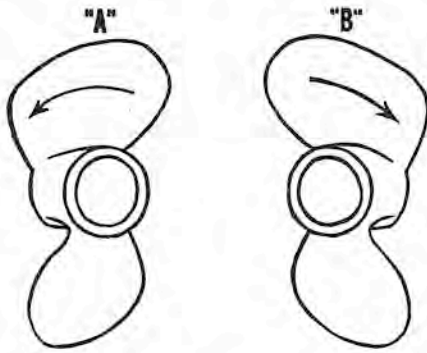

Fig. M102—Before disassembling the direct drive lower unit, check to see if it is Standard Rotation (A) or Counter Rotation (B).
**Direct Drive Types:** Direct drive type lower units have no shifting mechanism or clutches. The direction of travel is reversed by reversing direction of rotation of the engine. On late models, the propeller shaft may rotate in either the standard (counter-clockwise) direction as shown in view "A" (Fig. M102) or clockwise as in the counter-rotation unit shown in view "B". Refer to Fig. M102 to determine the type of unit being serviced.